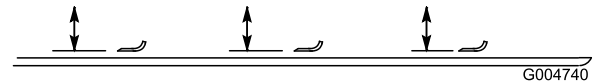

Figure 90
2. Rotate the blade until the ends face forward and backward (Figure 90). Measure from the inside of the cutting unit to the cutting edge at the front of the blade. Remember this dimension.